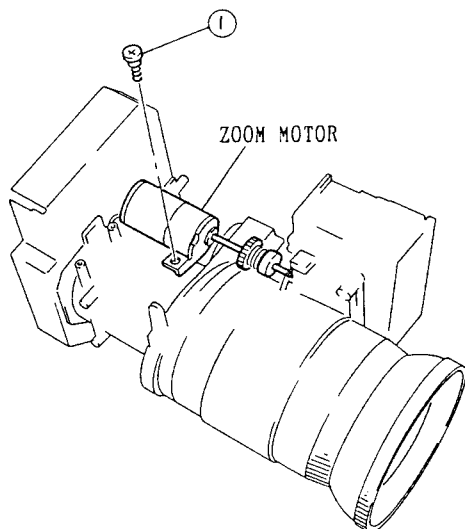

Fig. 2-103
1. Remove one (1) screw holding the zoom motor. (See Fig. 2-103)